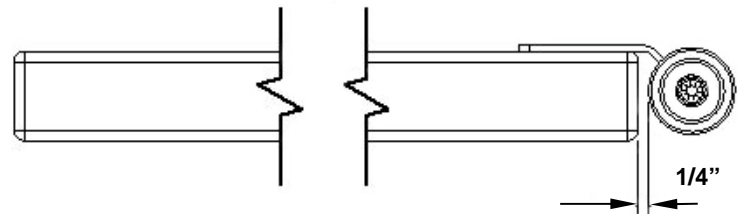

Figure 2
2. Ensure the wheels do not contact the mat. Leave a $\frac{1}{4}$ " gap as shown in Figure 2.